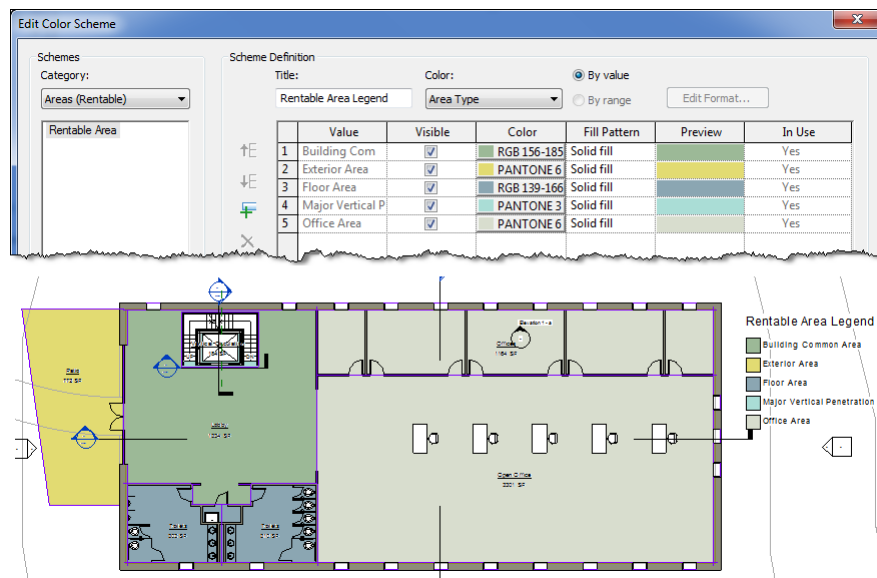

Figure 10 – Create a Color Scheme and apply it to a view
- ✓ To apply the Scheme to a View, edit the View Properties and choose it for the Color Scheme property. There is a Legend button on the ribbon if you wish to add a legend to the view (see Figure 10).